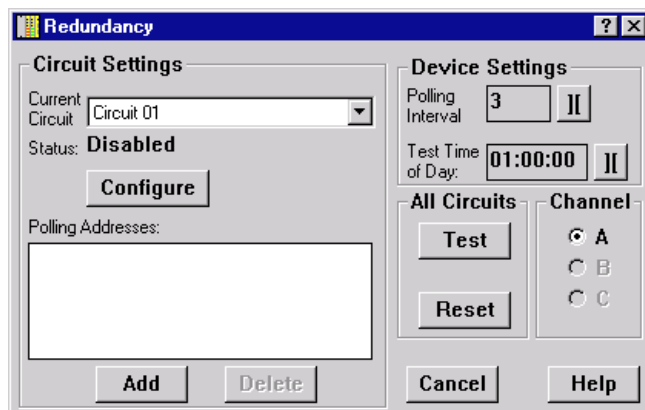
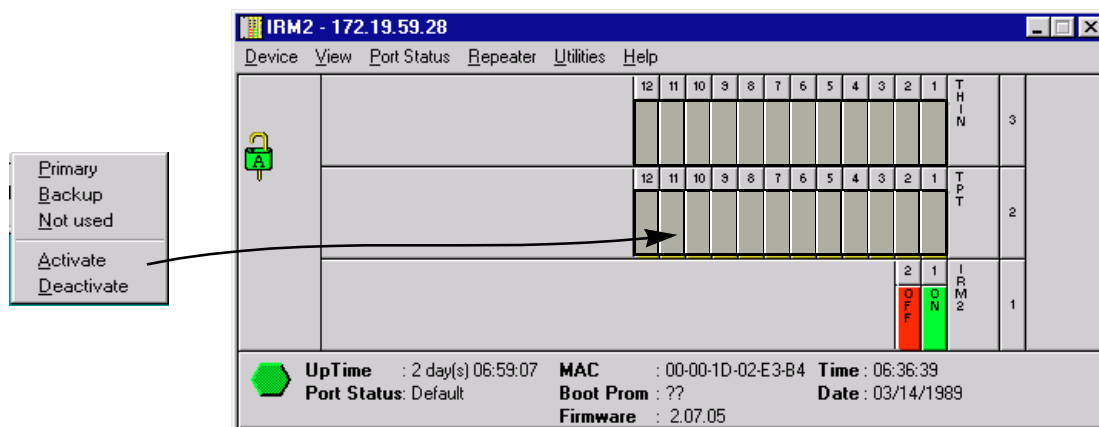

Figure 7-1. Redundancy Configuration Window
Figure 7-2. Chassis View in Redundancy Mode
Two things will occur when you select the Redundancy View: the Redundancy Configuration window, **Figure 7-1**, will appear; and the Chassis View will change significantly, as illustrated in **Figure 7-2**. You will use these two windows in tandem to configure your redundant circuits.
The Redundancy Configuration window, Figure 7-1, allows you to add or delete a redundant circuit for your IRM2, as well as Rename, Reset, Enable, Disable, or reconfigure the Retry Count for any circuits you have configured.
The altered Chassis View display, Figure 7-2, provides the means by which you assign primary and backup ports to each circuit.
1. In the altered Chassis View window (Figure 7-2), click on the port that you wish to specify as primary. A port menu will appear.